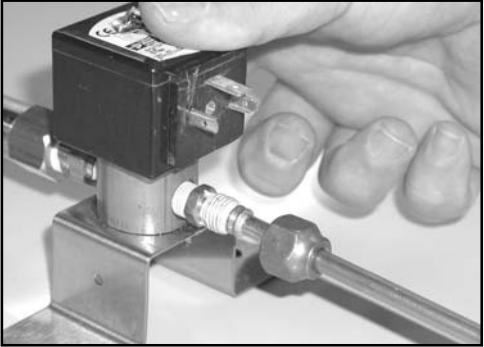

Figure 3
3. After connecting Union Fitting to Air Wash System, get Solenoid Valve Assembly and connect Water Line Extension Flare Nut. Mount Solenoid Valve Assembly to Roof Panel by placing Tapping Screws. See **Figures 3 & 3a**.